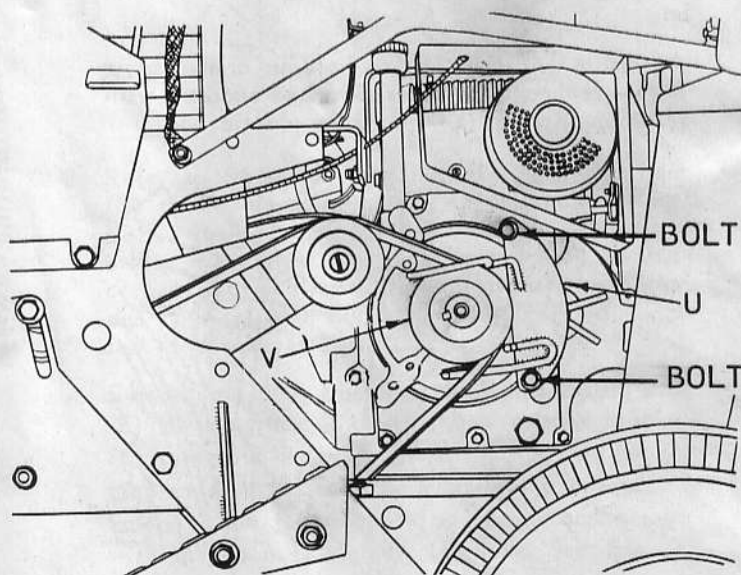

FIG. 11
16. Refer to Fig. 11. Remove two bolts holding belt guide assembly (U) to engine as shown and remove belt guide assembly.
17. Depress clutch pedal and engage parking brake. Loosen two set screws in engine pulley (V), then slide pulley and belt from engine shaft.
18. Place transaxle drive belt (W), on new engine pulley (X), and slip new engine pulley on engine shaft as shown. Align new pulley (X), with idler pulley (Y). Tighten set screws in new engine pulley securely. New pulley can be left on for use with mower. New pulley guard must also be used with new pulley.
19. Install snow thrower drive belt (Z), on new engine pulley (X), as shown.
20. Replace belt guide assembly (U), removed in step 16, Fig. 11.